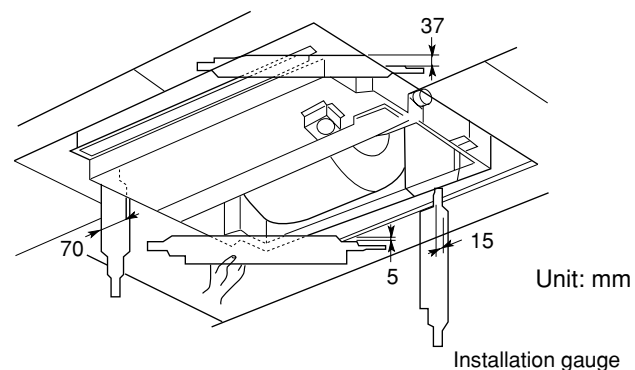

Fig. 3-9
- (4) Adjust the distance between the unit and the opening in the ceiling to give clearances of 15 mm in the front and back directions and 70 mm in the right and left directions so that the height between the bottom surface of the flange of the unit and the bottom surface of the ceiling is 37 mm, and the air-intake side is 5 mm. To check these dimensions for positioning the unit, use the installation gauge which is taped on the unit. (Fig. 3-9)
- (5) Confirm all clearances with the installation gauge as follows:
(Fig. 3-9)